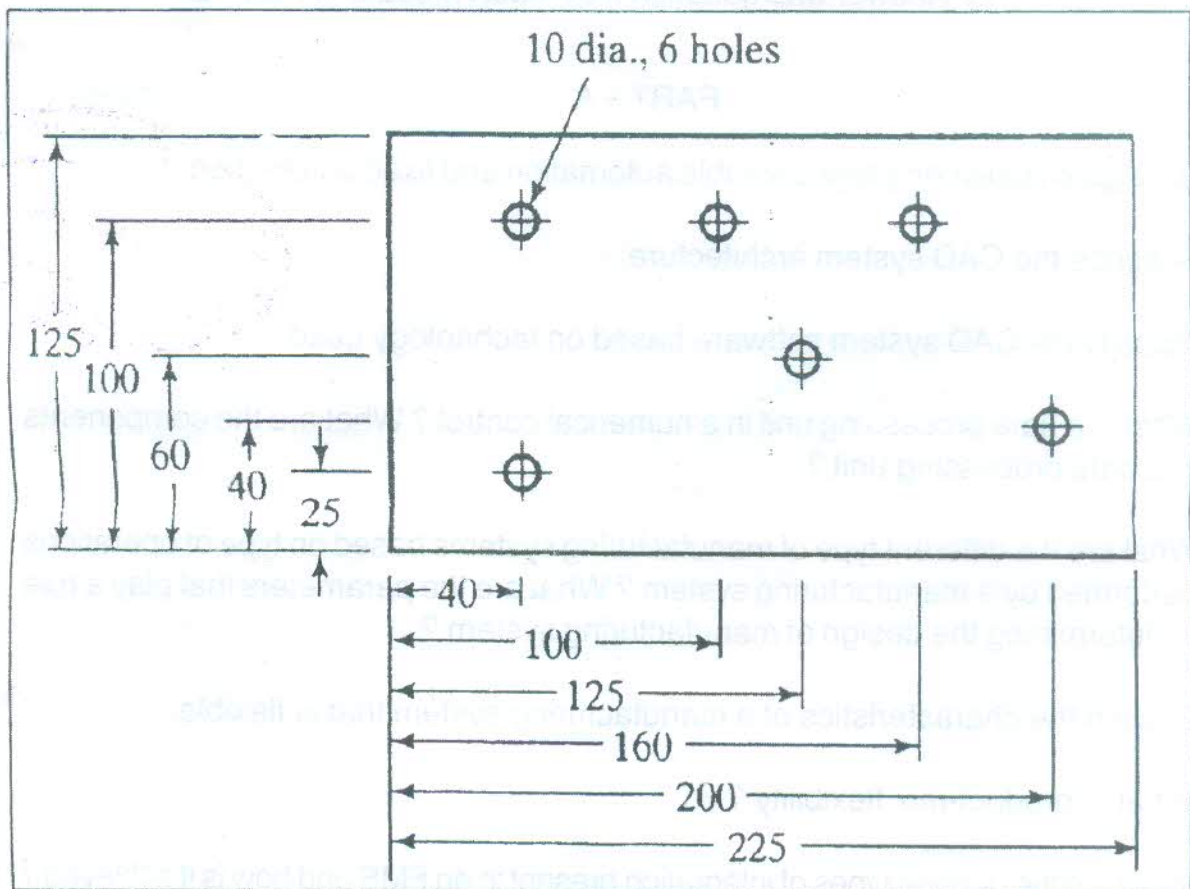

Figure 1 : Part Drawing. Dimensions are in millimeters
11. Write the part program to drill the holes in the part shown in Figure 1. The part is 12 mm thick. Cutting speed = 100 m/min and feed = 0.06 mm/rev. Use the lower left corner of the part as the origin in the x-y axis system. Write the part program in the word address format with TAB separation and variable word order.
12. Write the complete APT part program to perform the drilling operations for the part drawing in Figure 1. Cutting speed = 0.4 m/sec., feed = 0.10 mm/rev., and table travel speed between holes = 500 mm/min. Postprocessor call statement is MACHIN/DRILL, 04.